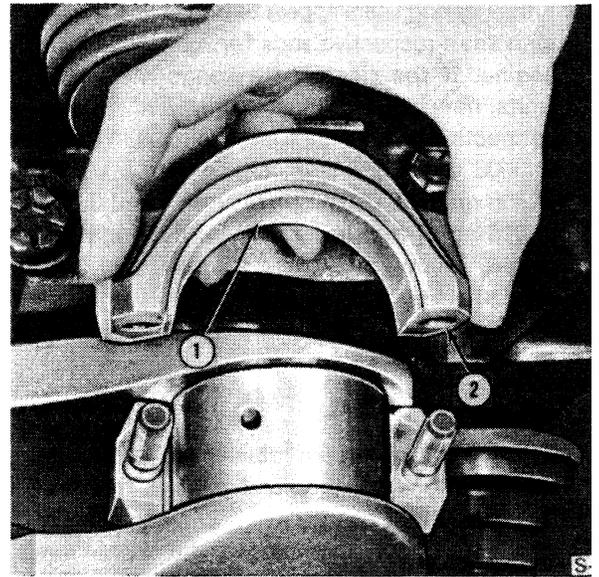

Figure 32
2. With the piston at the bottom of its stroke, remove the nuts from the bearing cap bolts and remove the bearing cap and liner, Figure 32.